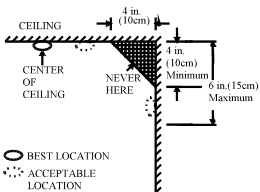

Figure 4: Recommended best and acceptable locations to mount smoke detectors
- ◆ Install smoke detectors as close to the center of the ceiling as possible. If this is not practical, put the detector on the ceiling, no closer than 4 inches (10 cm) from any wall or corner, as shown in Figure 4.
- ◆ If ceiling mounting is not possible and wall mounting is permitted by your local and state codes, put wall-mounted detectors between 4 and 6 inches (10 ~ 15 cm) from the ceiling, also see Figure 4.